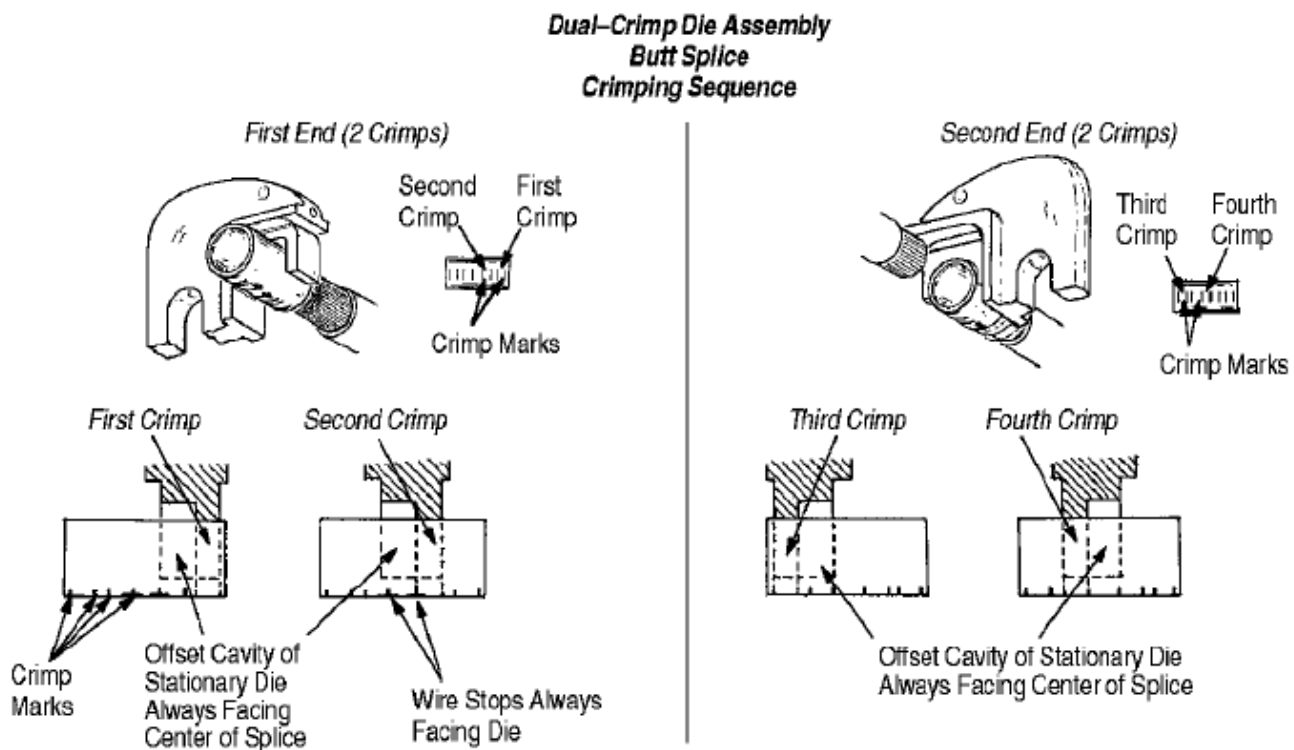

Figure 6
The offset cavity of the die must always face the center of the splice, and the wire stops on the splice must always face either die (see Figure 6).
5. Reposition the splice as shown in Figure 6 and perform the 2nd crimp.
6. Before making the 3rd and 4th crimps, it will be necessary to turn either the splice, the crimping head, or the dies, around. Then, position the splice in the stationary die as shown in Figure 6 and repeat Steps 2 and 3.
8. Reposition the splice as shown in Figure 6 and complete the 4th crimp.